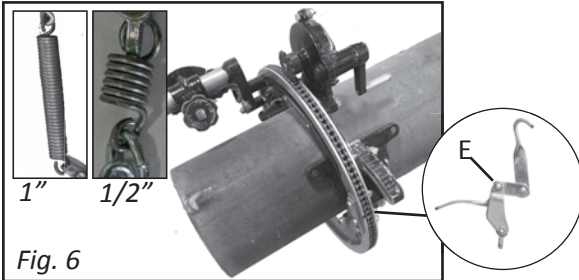

Fig. 6
2. Mount Quick Set machine to pipe/tube. Clamp boomer (E, Fig. 6) around pipe.